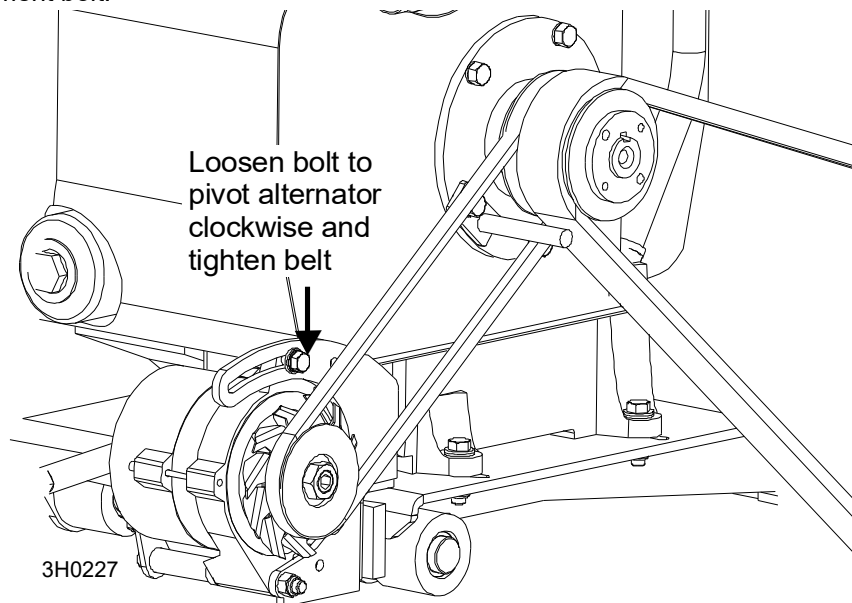

FIG. 3-1
1. Adjust the alternator belt as needed. **See Fig. 3-1.**